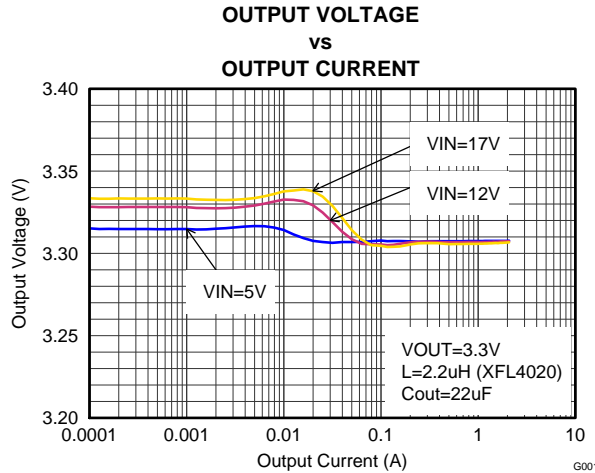
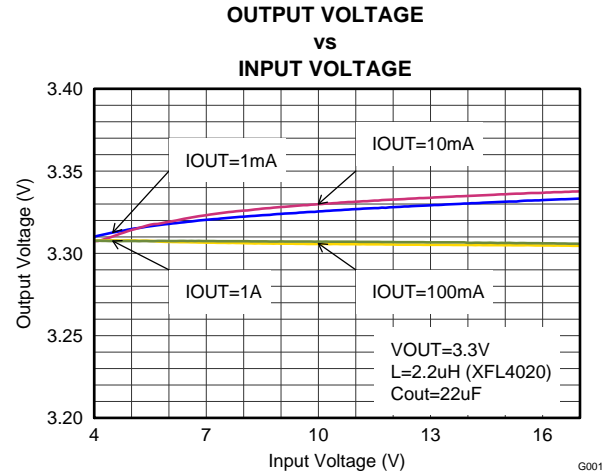

Figure 17. Output Voltage Accuracy (Load Regulation)
Figure 18. Output Voltage Accuracy (Line Regulation)
(4) This is the voltage regulated at the FB pin.
(5) This is the accuracy provided by the device itself (line and load regulation effects are not included). For the fixed-voltage versions the (internal) resistive divider is included.
(6) Line and load regulation depend on external component selection and layout (see Figure 17 and Figure 18).